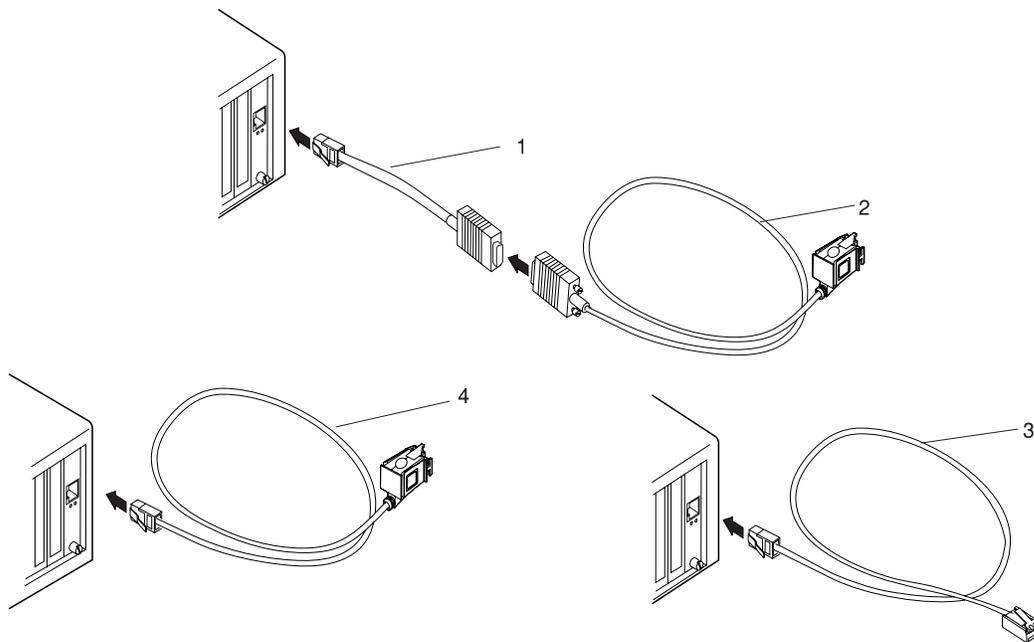

Figure 5-1. Connecting an Adapter Cable to Adapter Type 8-T
1. Connect the adapter cable to the adapter connector as illustrated in Figure 5-1. See Appendix A, "Adapter Cables" on page A-1, for detailed descriptions of the compatible cables.